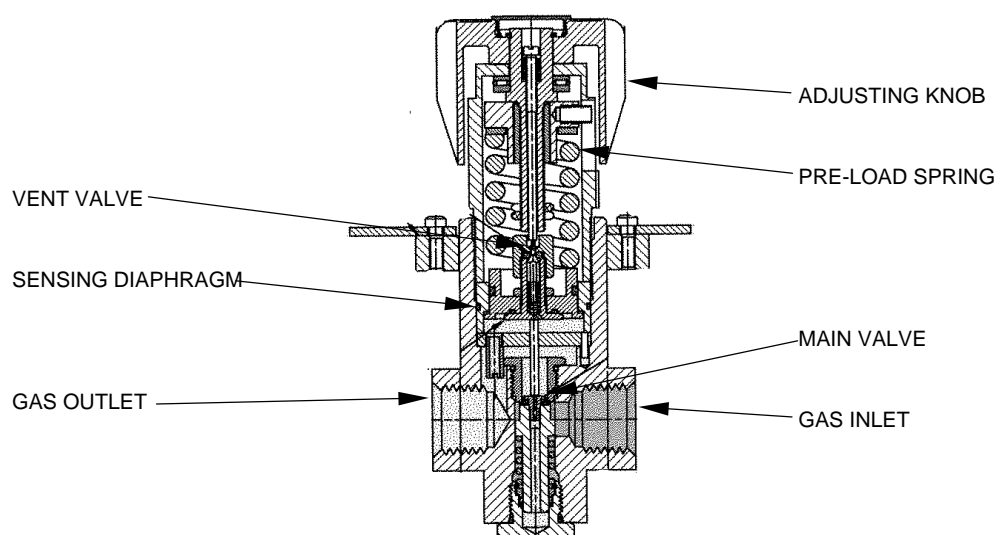

Figure 6-20. HP Air Regulator (Series 44)
- a. Using new O-rings (2), apply a light coat of lubricant MIL-G-27617 Type III and install tubing connector nuts that secure the filters in the system.
**6-7.2 SYSTEM PRESSURE REGULATORS.** Regulators (see Figures 6-20 and 6-21) are designed to control the output pressure of a fluid system to provide a constant pressure for use. In the SNDLRCS, the regulators are designed to control the pressure for HP air, HP oxygen, and low-pressure diver's breathable air. In order to disassemble, repair, or rebuild pressure regulators, access to clean room facilities with the appropriate flow/pressure test equipment is required (see Tables 6-16 and 6-17). Refer to the component technical manual for repair procedures, specifications, and torque values. On site, follow the procedures in sections 6-7.2.1 and 6-7.2.2 for removal and reinstallation of pressure regulators. For a complete parts breakdown, see Figure 7-22 (HP Air Regulator), Figure 7-23 (HP Oxygen Regulator), and Figure 7-24 (BIBS Exhaust Manifold Pressure Regulator).